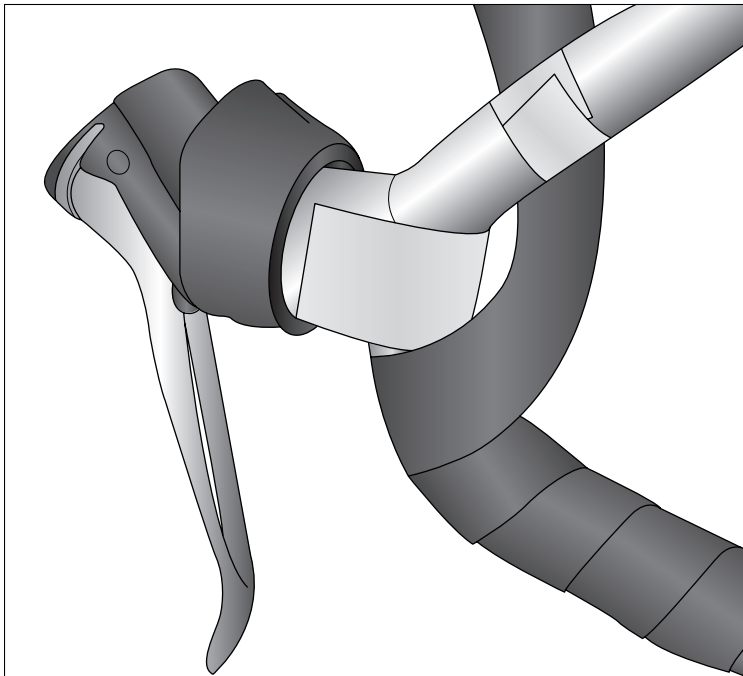

Figure 15-4:
3. **Pull the tape up and under the handlebar in preparation to pull the tape back down and around the shifters (see Figure 15-4).**